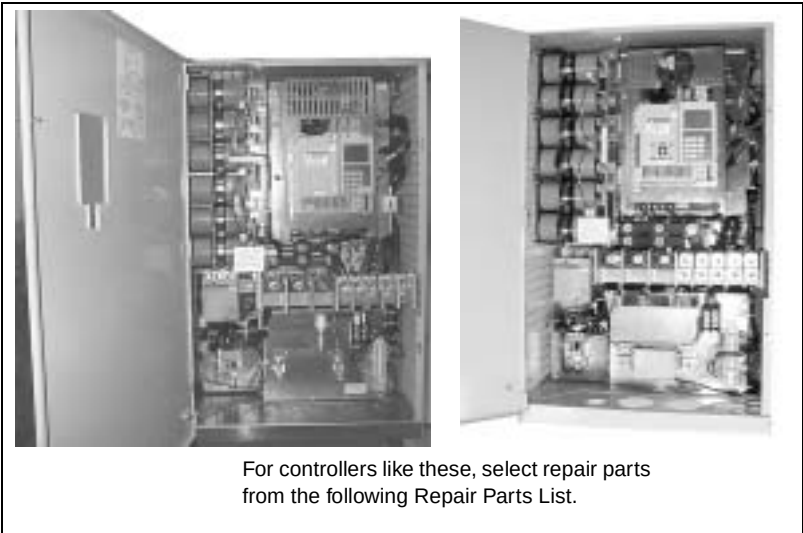

Figure 2: ATV66C10N4–C19N4: Shipped On or After June 1, 1998
- If the serial number has a "1" as the seventh digit, select repair parts from the repair parts list beginning on page 2 of this addendum. All drive controllers shipped on or after June 1, 1998 have a "1" as the seventh digit of the serial number. See Figure 2 on page 2 for illustrations of these controllers.